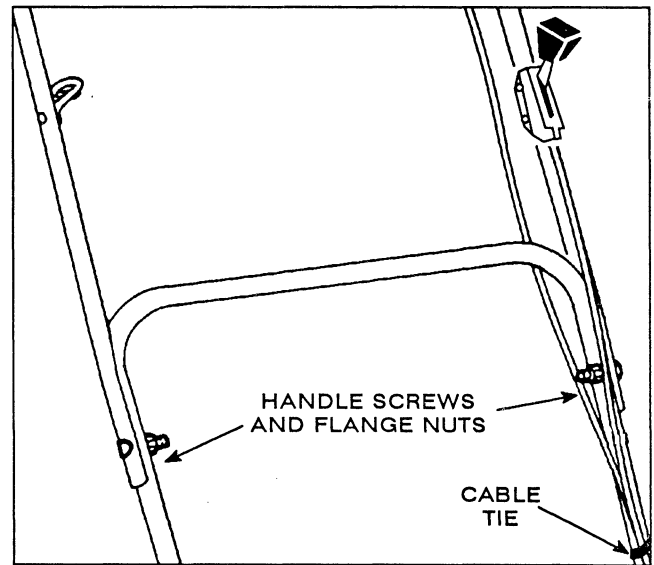

Figure 2
2. UPPER HANDLE (Fig. 2)—Secure upper and lower handles in place with handle screws and flange nuts. Control cables must be behind lower handle cross member. Secure control cables in position with cable tie.